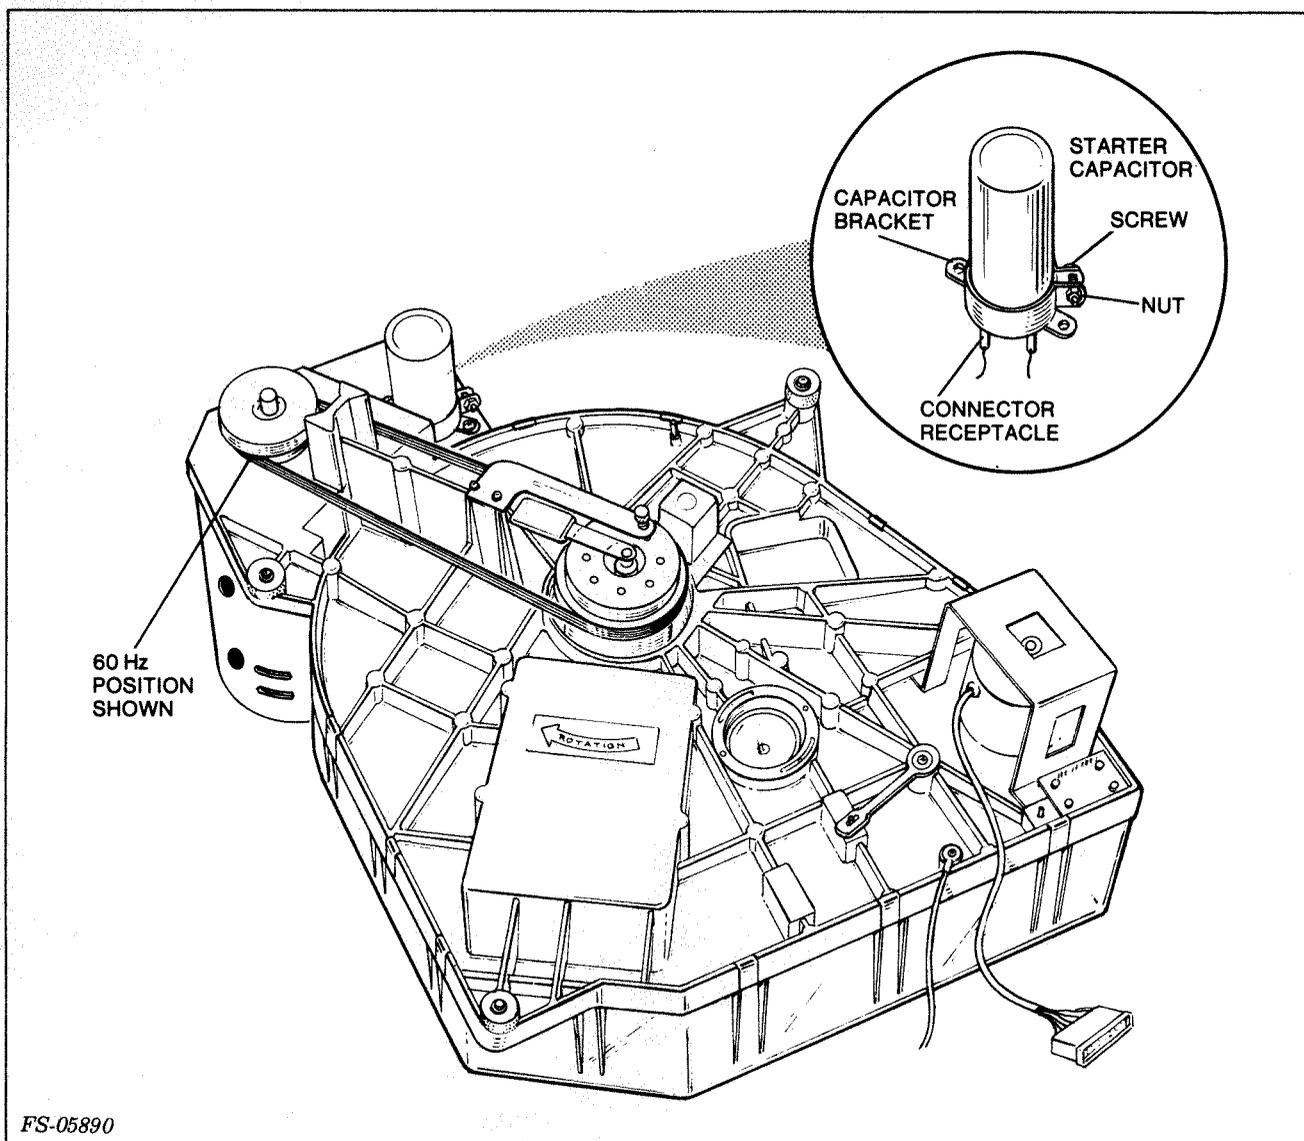

Figure 5-23. Spindle Motor Starter Capacitor Replacement
2. Locate the starter motor capacitor (see Figure 5-23).